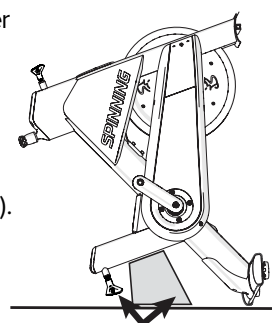

Figure 3
1. Stand the bike frame on its back end and place a towel or other cushioning under the bike frame (Fig. 3) to protect the seat adjustment pop-pin from damage.